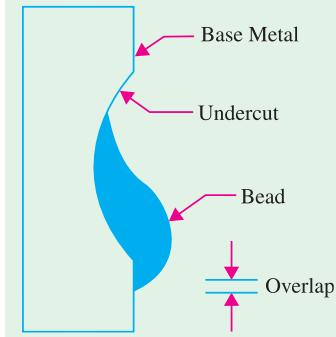
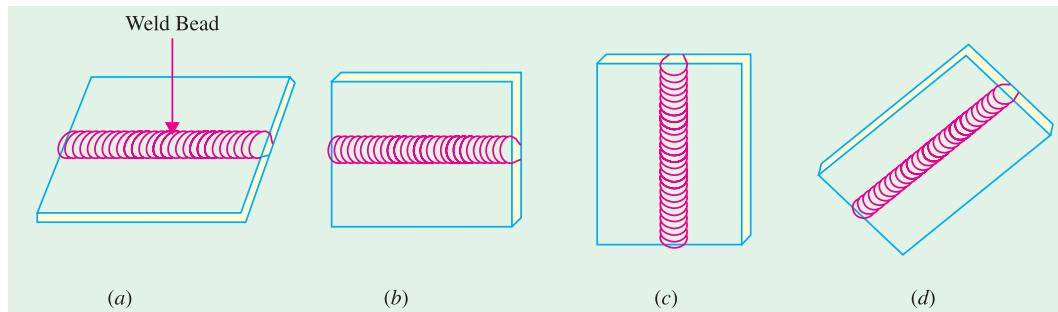

Fig. 48.6
Fig. 48.7.
**1. Flat position.** It is shown in Fig. 48.7 (a). Of all the positions, flat position is the easiest, most economical and the most used for all shielded arc welding. It provides the strongest weld joints. Weld beads are exceedingly smooth and free of slag spots. This position is most adaptable for welding of both ferrous and non-ferrous metals particularly for cast iron.
**2. Horizontal Position.** It is the second most popular position and is shown in Fig. 48.7 (b). It also requires a short arc length because it helps in preventing the molten puddle of the metal from sagging. However, major errors that occur while welding in horizontal position are under-cutting and over-lapping of the weld zone (Fig. 48.6).
**3. Vertical Position.** It is shown in Fig. 48.7 (c). In this case, the welder can deposit the bead either in the uphill or downhill direction. Downhill welding is preferred for thin metals because it is faster than the uphill welding. Uphill welding is suited for thick metals because it produces stronger welds.
**4. Overhead Position.** It is shown in Fig. 48.7 (d). Here, the welder has to be very cautious otherwise he may get burnt by drops of falling metal. This position is thought to be the most hazardous but not the most difficult one.